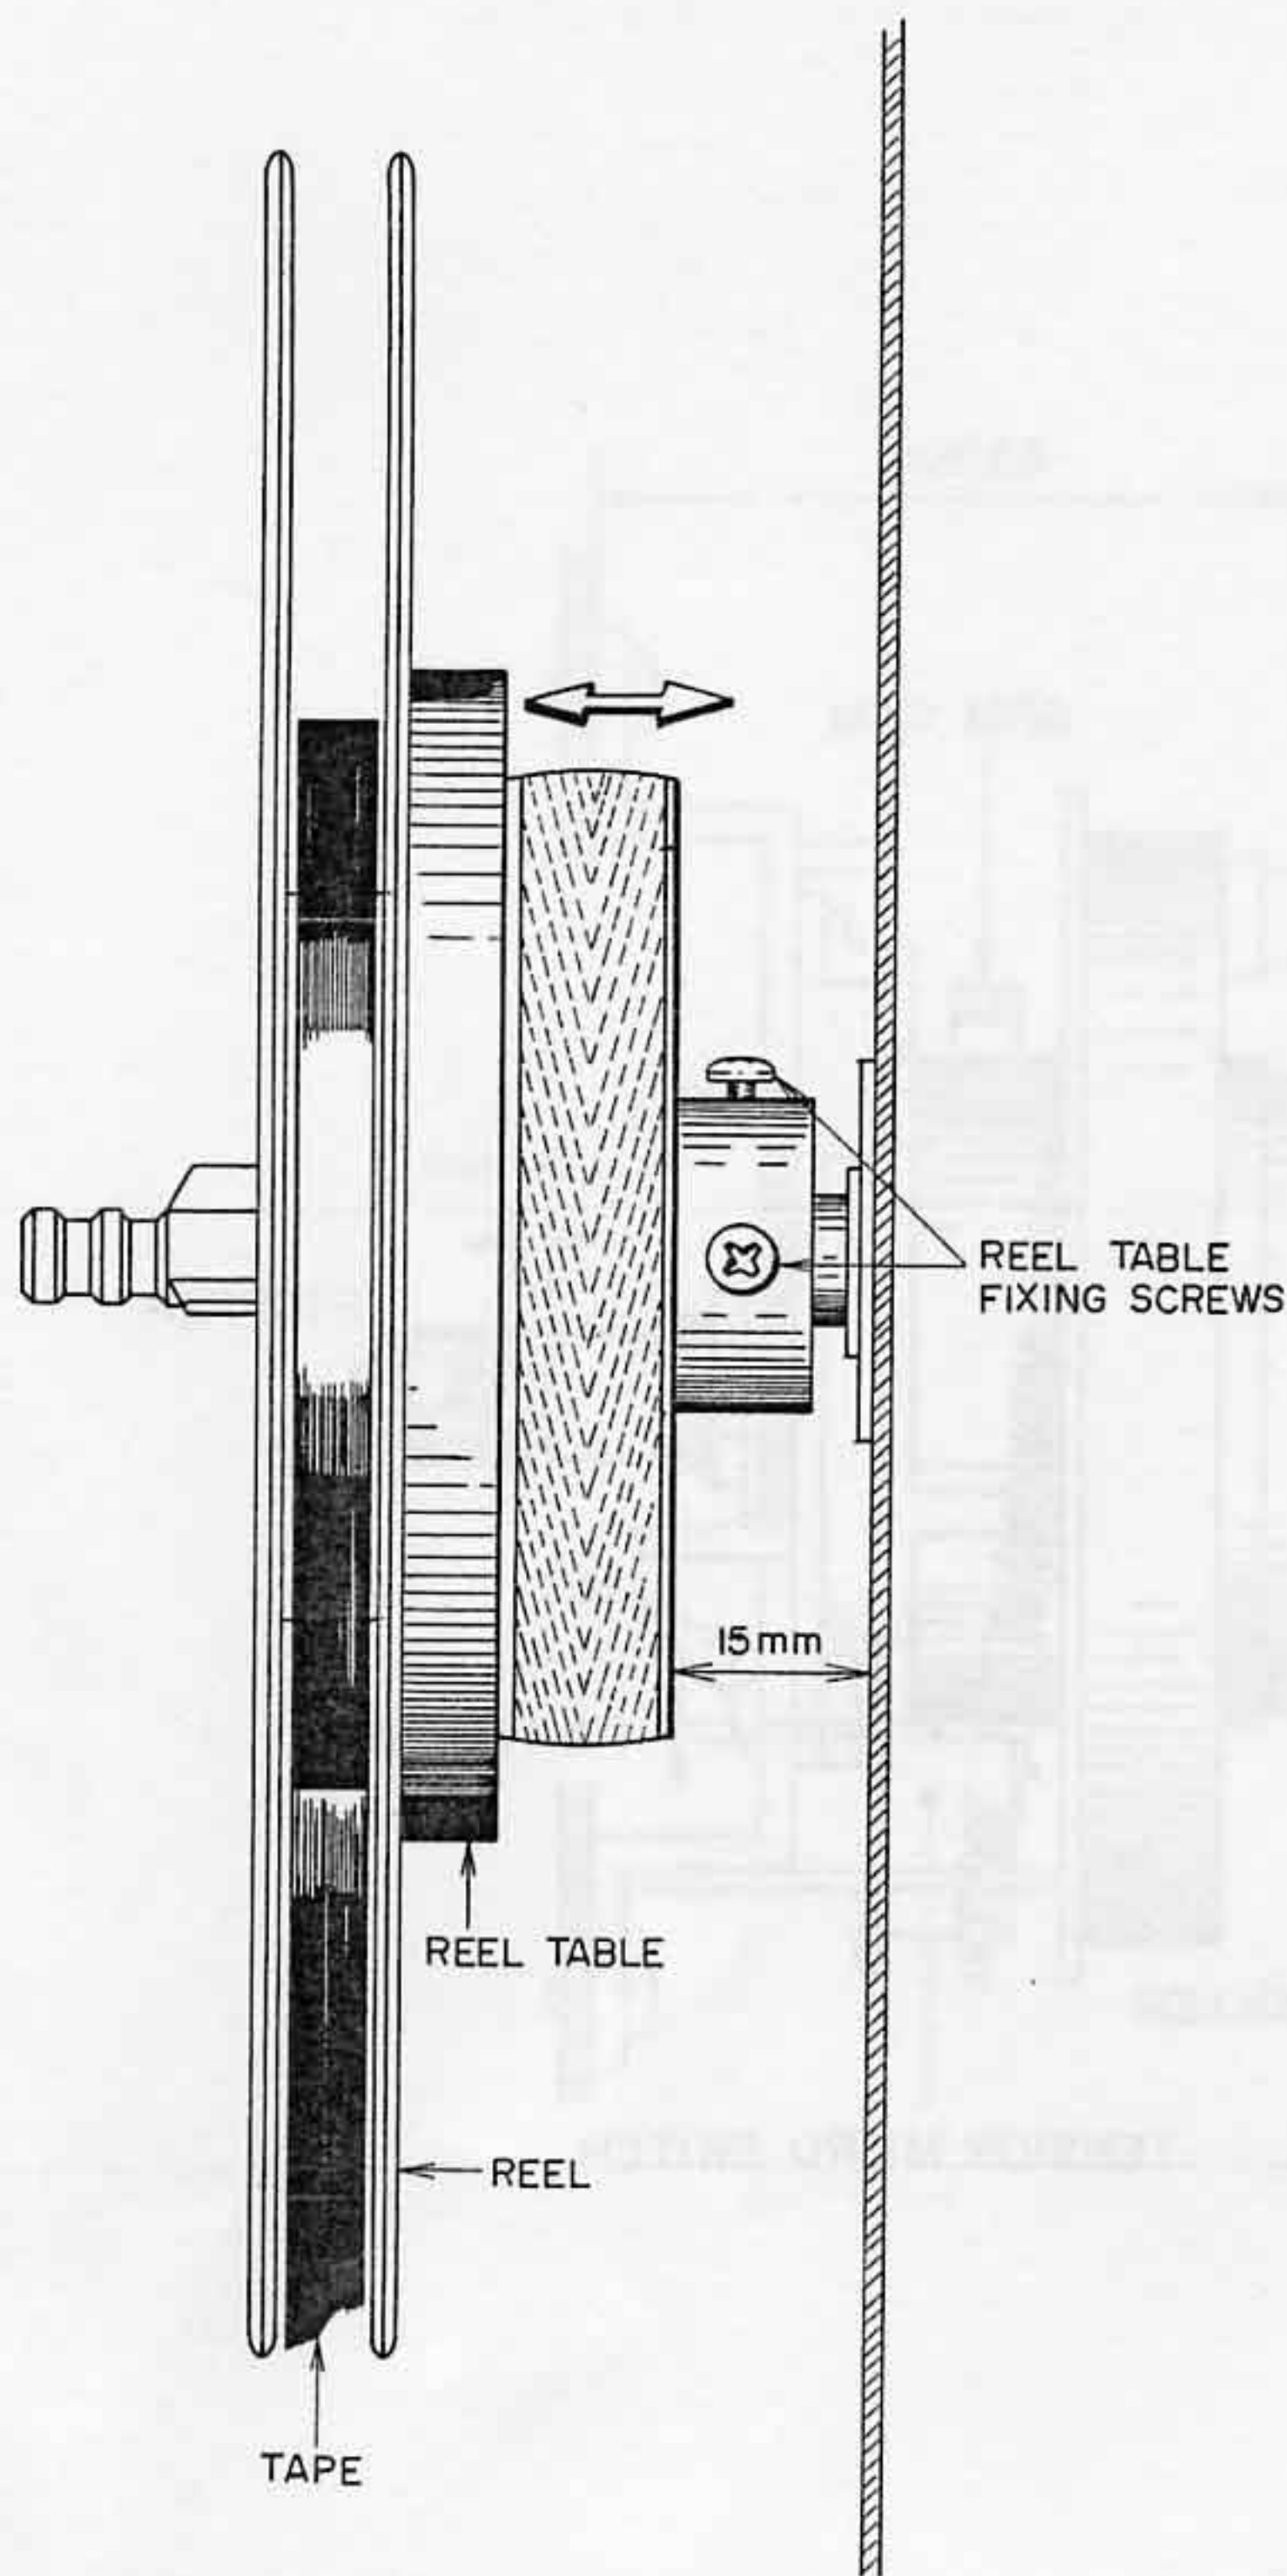

Fig. 6
**4. REEL TABLE HEIGHT ADJUSTMENT (Refer to Fig. 6)**